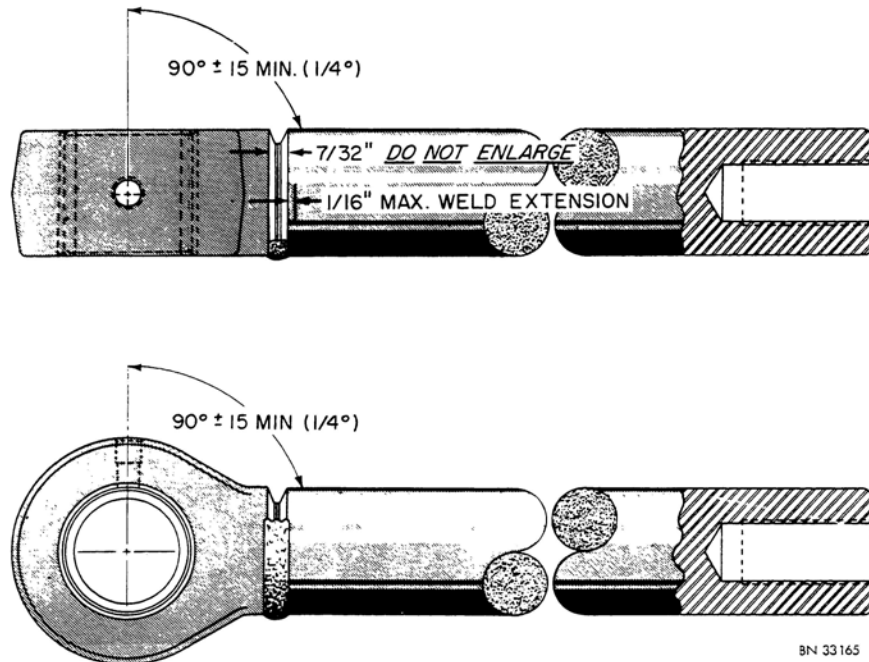

Figure 36
- b. Position the eye assembly so that it is square with the piston rod and not "cocked" in any direction. See **Figure 36.**